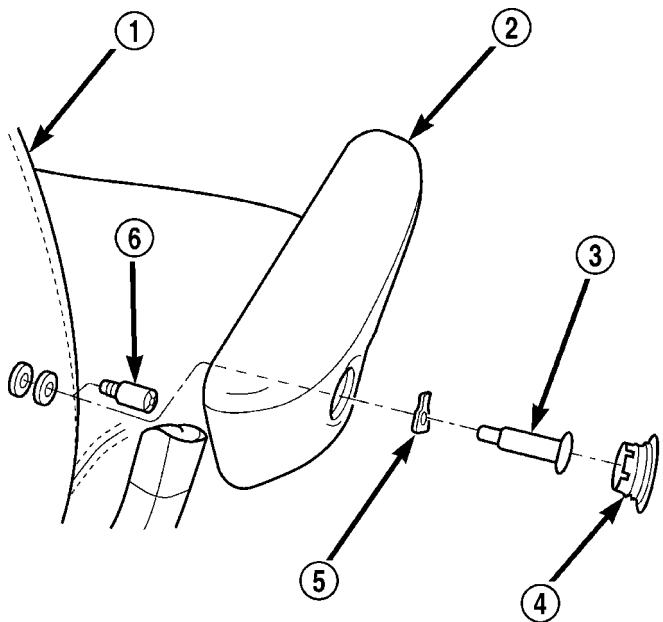

Fig. 21 ARMREST
- (4) Remove bright chrome molding from Grille (Fig. 21).
- (5) Depress molding locking tabs and pull outward to release molding.
- (1) Using a small flat blade, pry cap from side of armrest (Fig. 21).
- (2) Remove bolt attaching armrest to seat back.
- (3) Remove armrest from seat back.